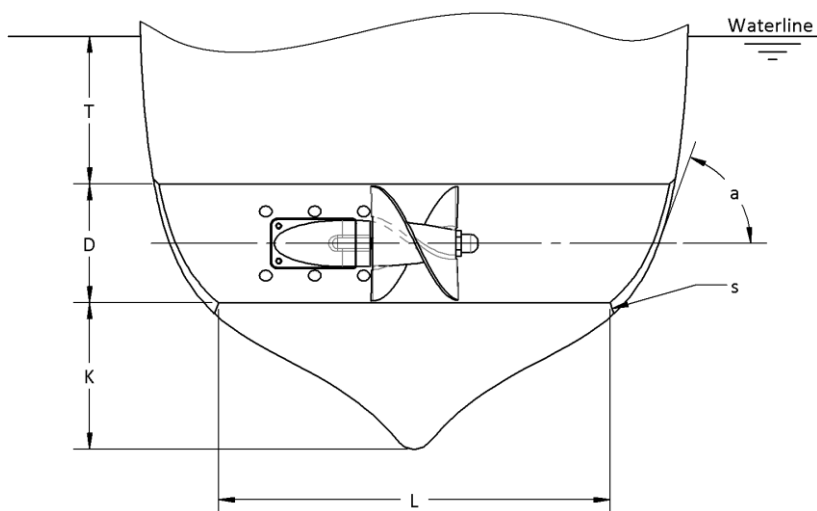

Figure 2 - Thruster tunnel location parameters that affect performance
- The tunnel's length, vertical positioning, and opening shape all greatly affect thruster performance. Refer to Figure 2 on page 8 and accompanying Table 3 for definitions of these parameters and their recommended values.